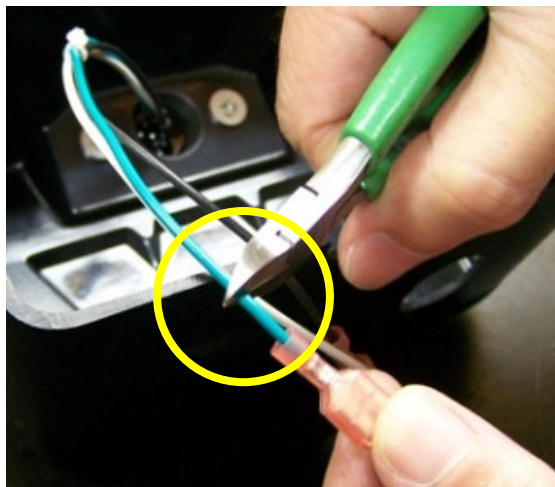

Figure 17
Step 15: Locate the provided control pack cover assembly PN 83196. Cut the terminal connector from the green wire. (Figure 17)